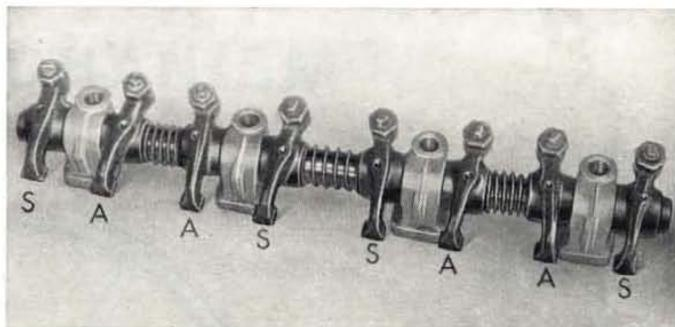

Fig. 108 - Rocker, shaft and support assembly.
**NOTE -** On assembly, recall that exhaust valve rockers are different from those of intake valves. Rockers must be positioned as shown in fig. 108.